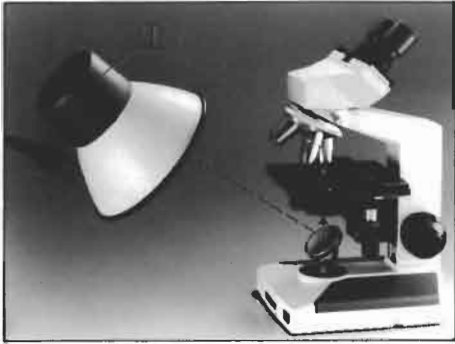

Fig. 9
1) Install the microscope near the window or place a lamp stand ① in front of the microscope. (Fig. 9)